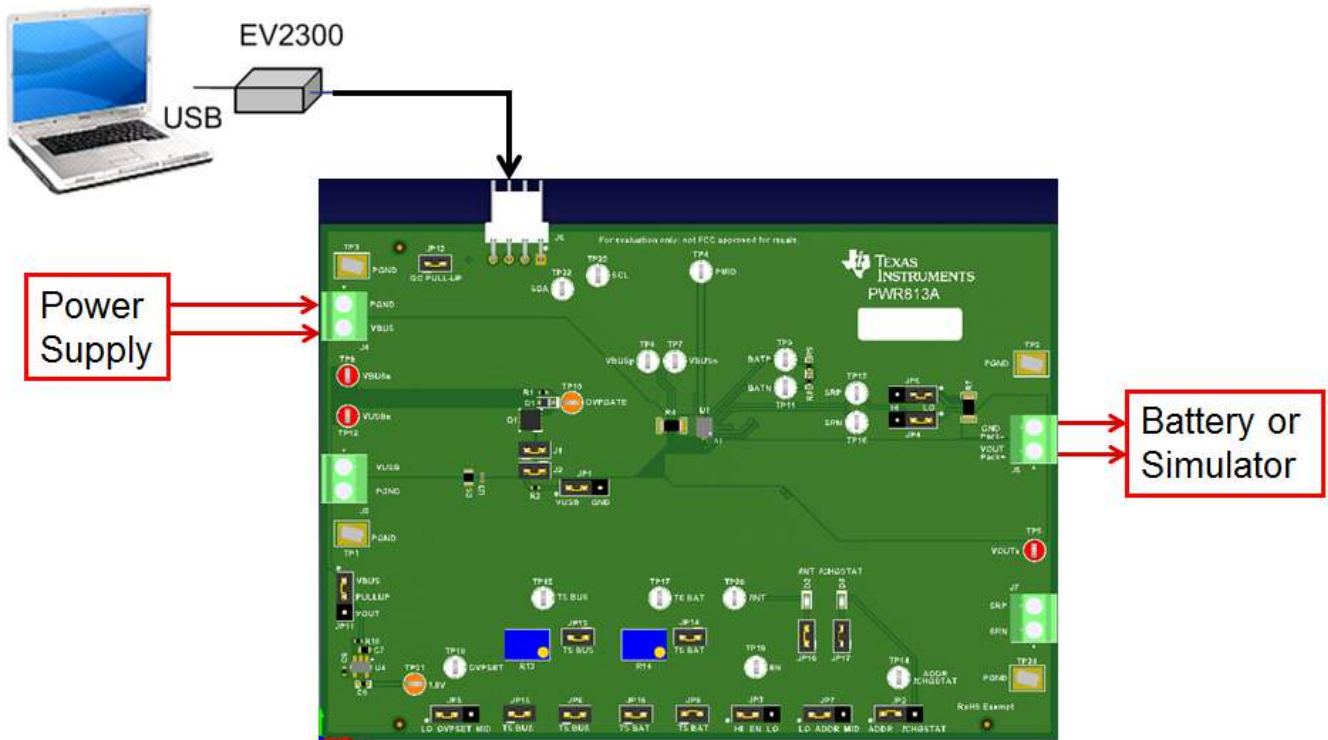

Figure 2. Test Setup for BQ25871
2. Connect the output of PS#1 to J4 (VBUS and GND) (connect to J3 VUSB for BQ25872) as shown in Figure 2.
3. Turn on the load, set to constant voltage mode and output to 3.6 V. Turn off (disable) the load. Connect load to J5 (VOUT and GND) as shown in Figure 2.
5. Install shunts as shown in Figure 2.